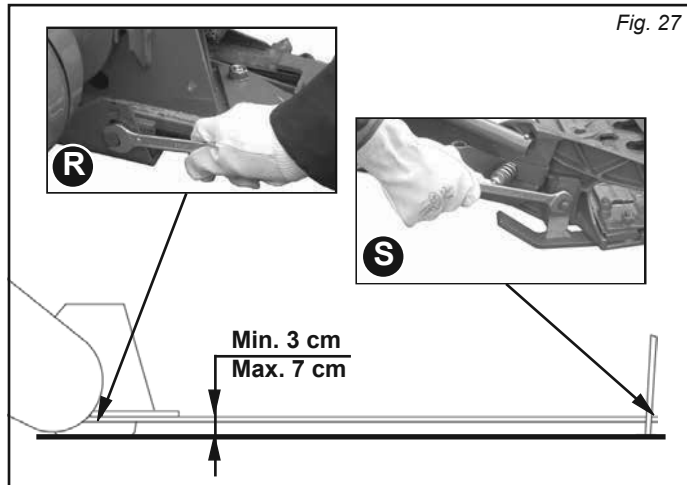

Fig. 27
- Adjust the cutting height (Fig. 27) by moving the mowing bar on the holes of the inner mowing bar support (R), and, turning the nut of the outer mowing bar support (S), bring it level with the ground.